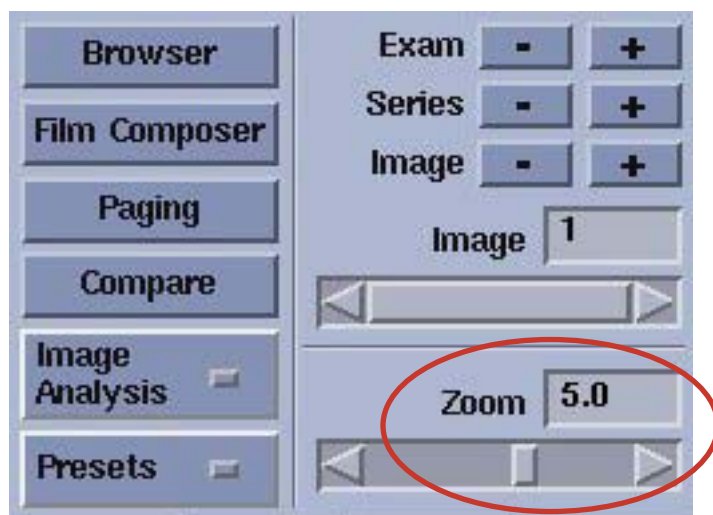

Figure 6-4 Zooming function
- 9.) Zoom the image to 5 times to view image, see Figure 6-4